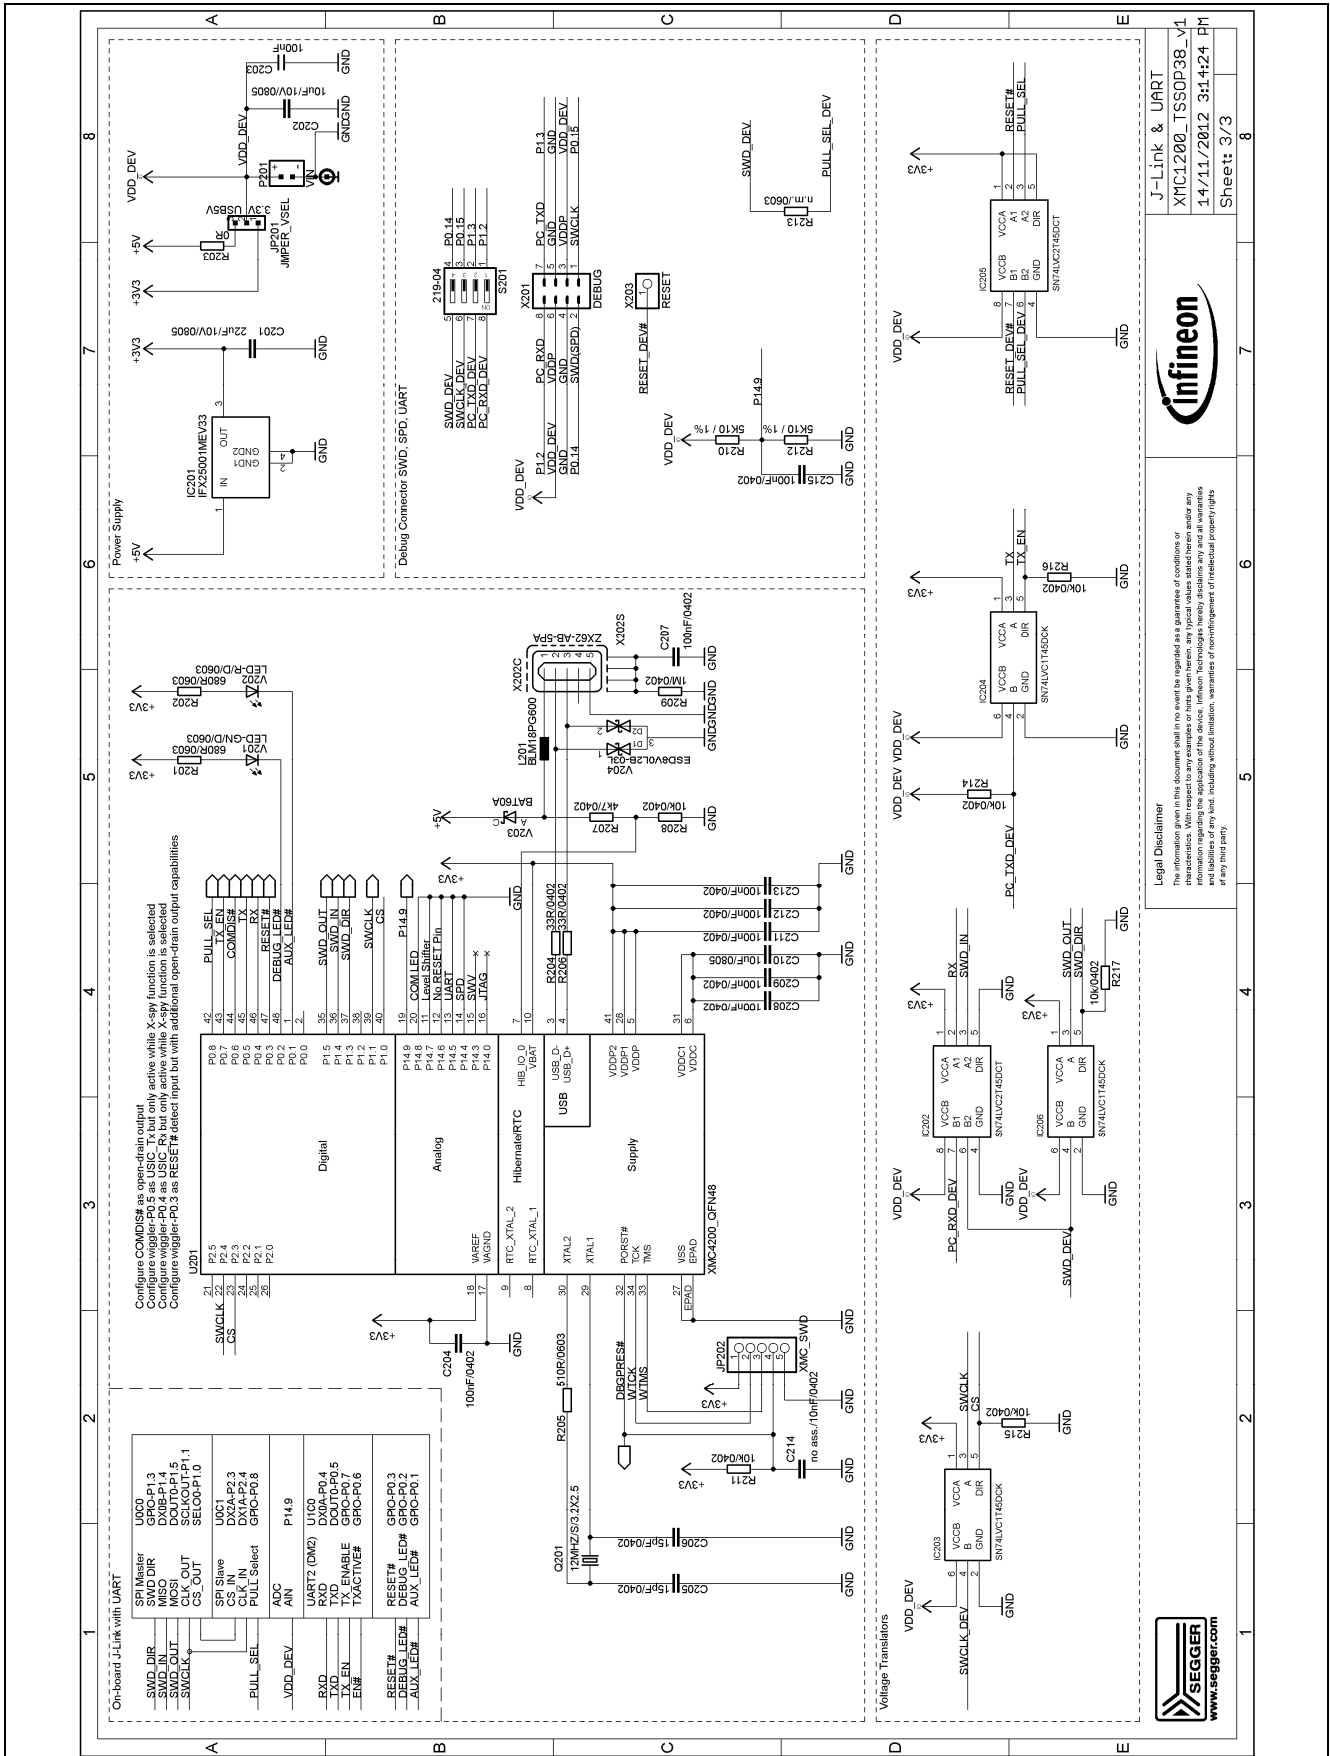

Figure 8 Schematic 2 of 2 XMC1200 CPU Card
- Figure 8: On-board Debugger, Power Supply